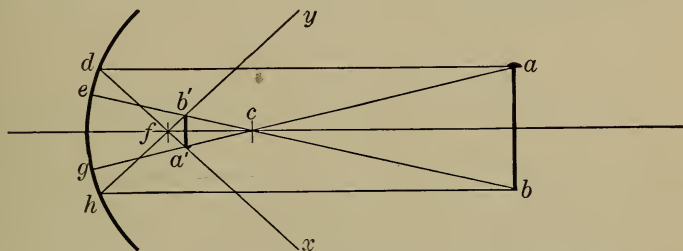

FIGURE 77.—CONSTRUCTION OF IMAGE IN A CONCAVE MIRROR.
**120. Image in a Concave Mirror.** — Figure 77 shows the construction of an image in a concave mirror.